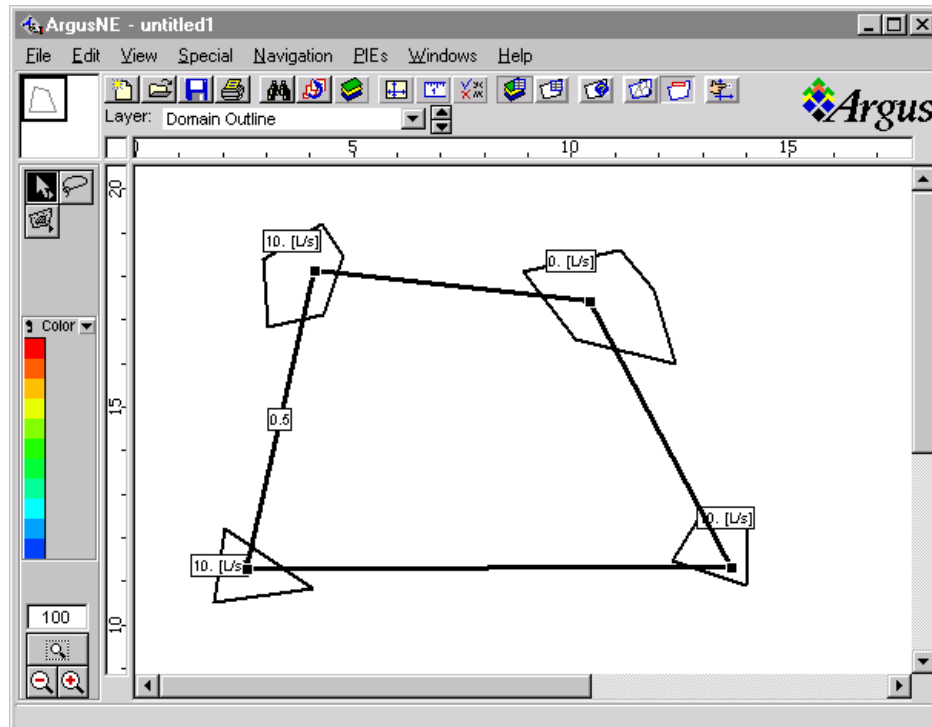

Figure 2. Model Boundary in Areal Ground-Water Flow Step-by-Step Example
12. Draw a model boundary by first activating the contour-drawing tool. Then move the cursor into the white workspace and click in the center of one of the lakes. Proceeding around the workspace, click at the center of each lake. Try to create a domain outline that looks like the one shown in Figure 2. Then, double-click at the center of the last lake to close the model domain contour.
13. The *Contour Information dialog* appears. Here the desired typical size of finite elements to be created by the mesh generator is specified. Type 0.5 in the space below the label, **Value**. This sets the desired width of an element to 0.5 in the units shown in the rulers around the periphery of the workspace. The result should look similar to the model boundary shown in Figure 2. Click **OK** to exit the window.